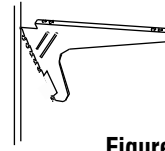

Figure 33
4. Holding the front edge of a left hand cantilever bracket (stamped with an "L") higher than the rear edge with the teeth, slide the top safety tooth into the trimrail slot you located in step 3. **Figure 33.**